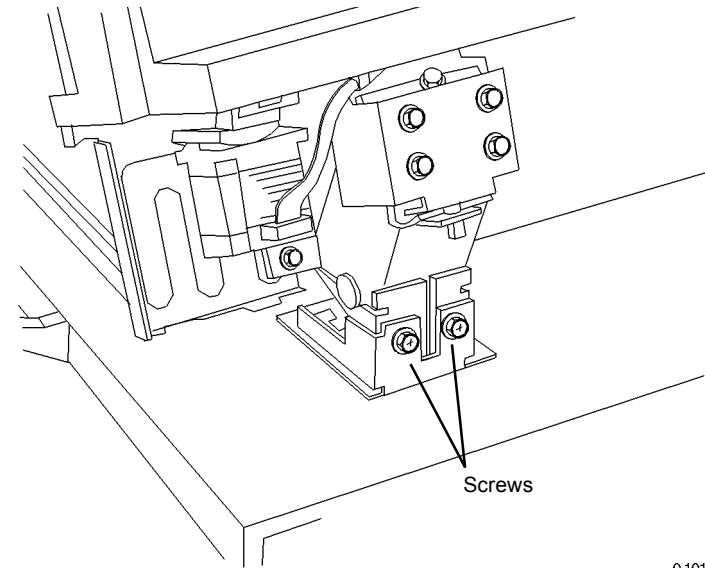

Figure 2 Loosening Screws
2. Raise DADF and loosen the Screws (2) (Figure 2).